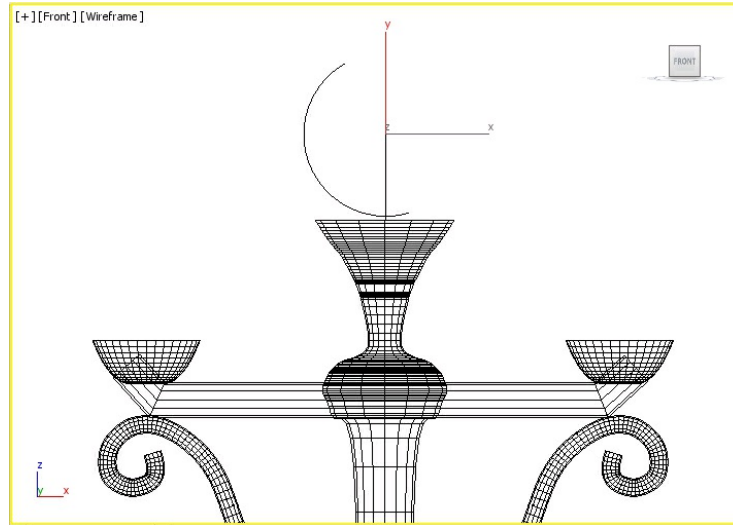

Figure 6-67 An arc created
1. Choose the **Arc** tool from the **Object Type** rollout. Next, create the arc in the Front viewport, as shown in Figure 6-67.